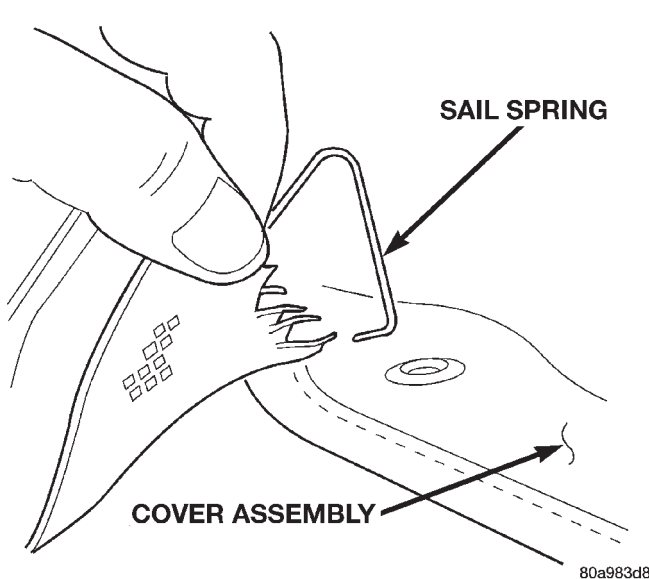

Fig. 2 Sail Springs
- (12) Remove sail panel springs on both sides at the front corners of the cover assembly (Fig. 2).
- (13) Remove all staples from the cover assembly.